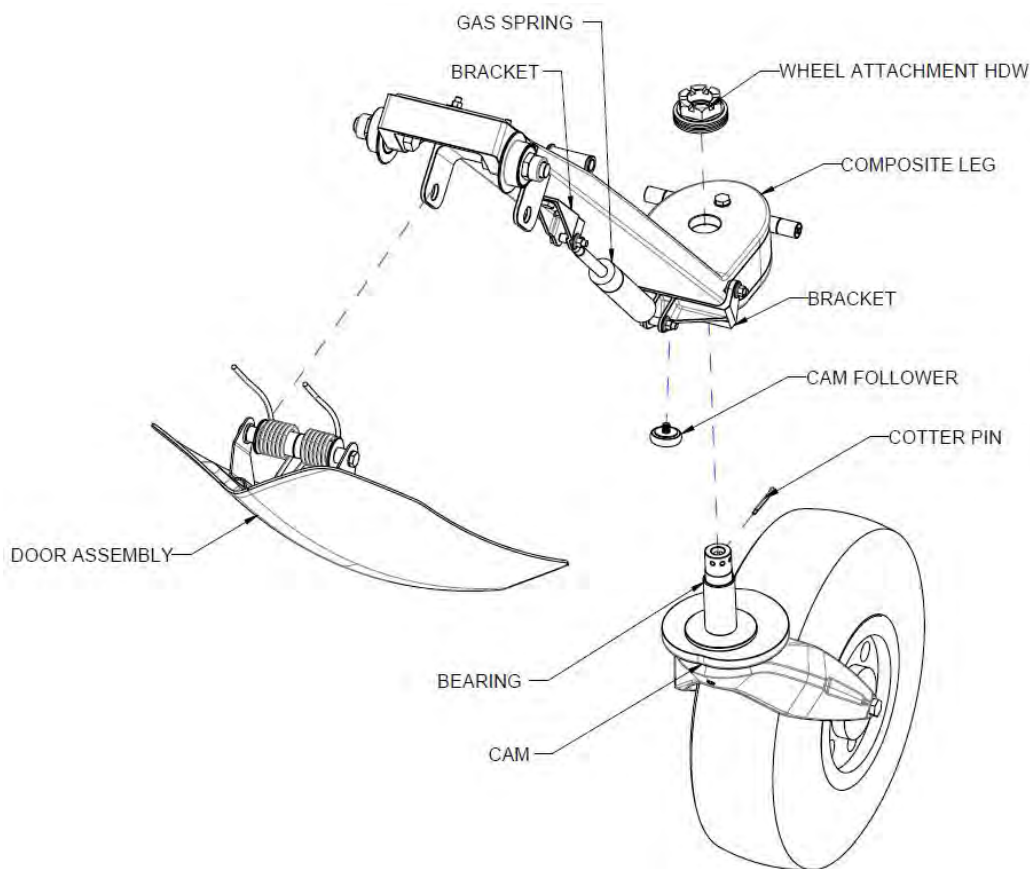

FIGURE 14-4
4. Inspect the proper function of the wheel rotation bearing (Figure 14-4) coupled with cam mechanism.